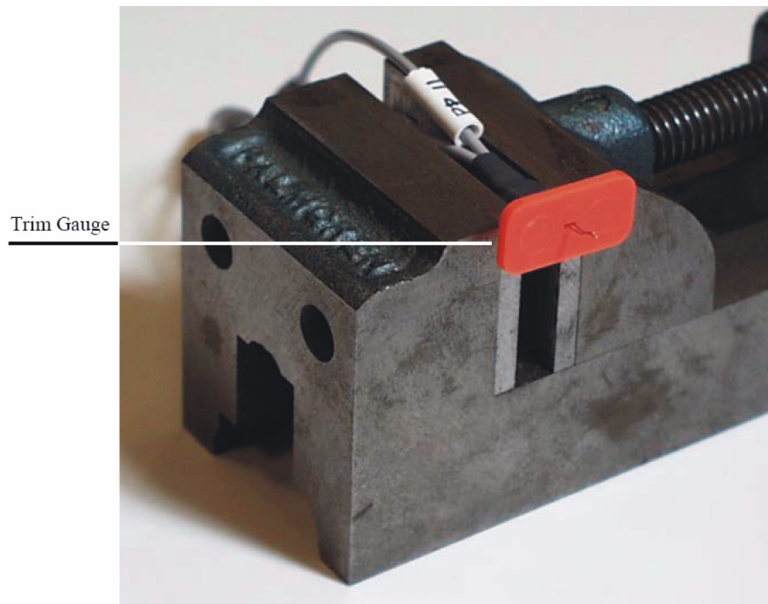

Figure 3-11 Use trim gauge to gauge the wire
- 8 Place the wires through the hole in the trim gauge with the probe head perpendicular to the trim gauge. Refer to **Figure 3-11**.